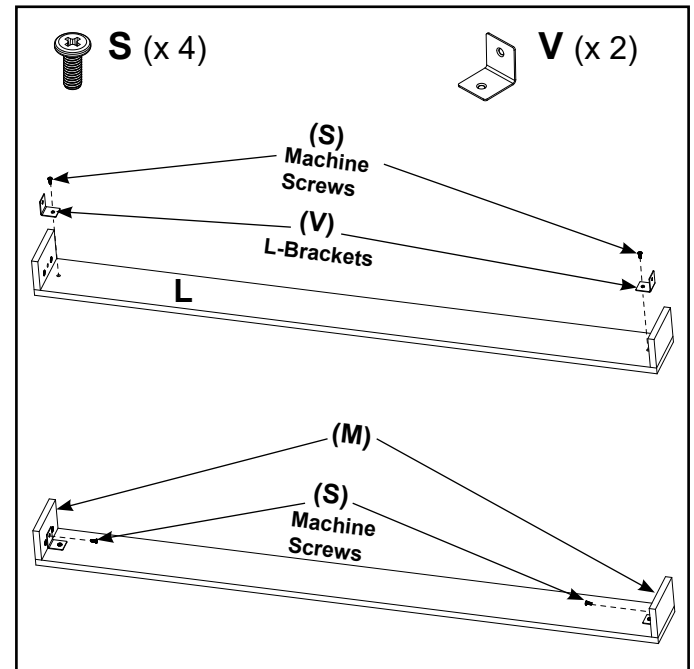

Figure 31
- Install two (2) L-Brackets (V) using two (2) M6 X 15 screws (S) on part "L". Secure two (2) L-Brackets (V) using two (2) M6 X 15 screws (S) to part "M" on each side. See Figure 31.